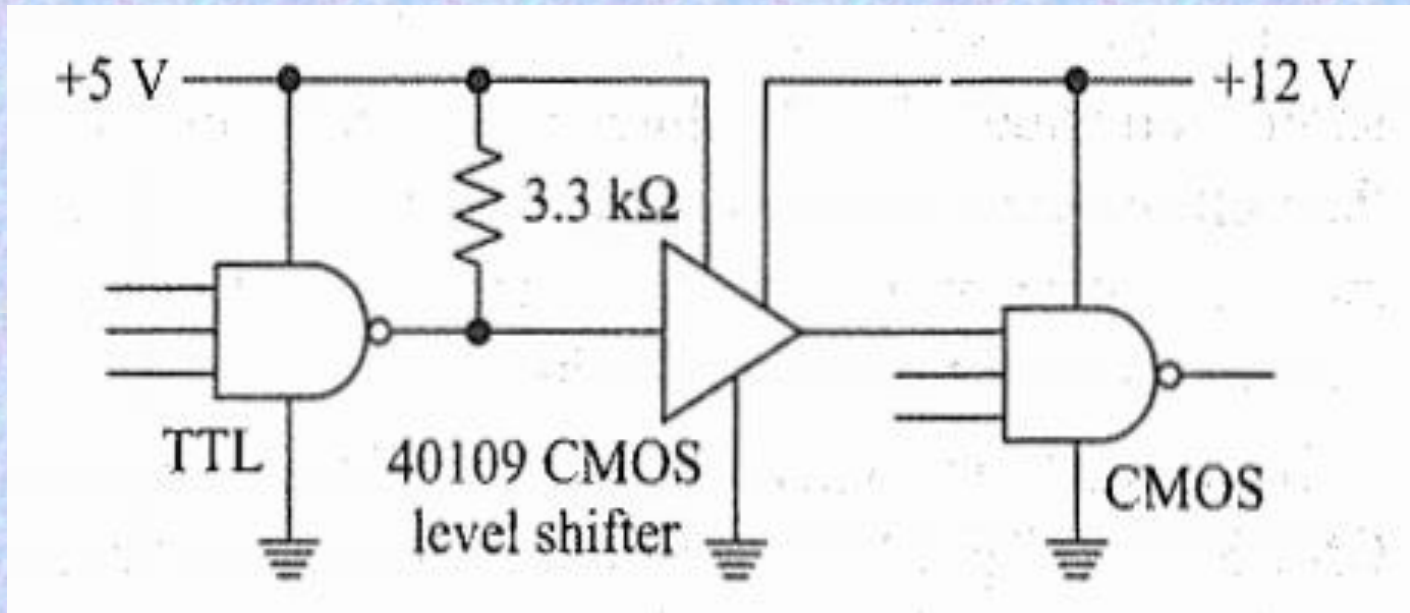

Fig. 1.37 CMOS level shifter allows the use of 5-V and 12-V supplies
- Figure 1.37 shows a 40109, called a level shifter. The input stage of the chip uses a supply voltage of +5 V, while the output stage uses +12 V. In other words, the input stage interfaces with TTL, and the output stage interfaces with CMOS.
- In Fig. 1.37, a standard TTL device drives the level shifter. This produces active TTL pull-up to at least +2.4 V. Beyond this level, the pull-up resistor takes over and raises the voltage to +5 V, which ensures a valid high-state input to the level shifter. The output side of the level shifter connects to +12V (this can be changed to any voltage from 3 to 15 V). Since the CMOS load runs off of +12 V, it has better propagation delay time and noise immunity.